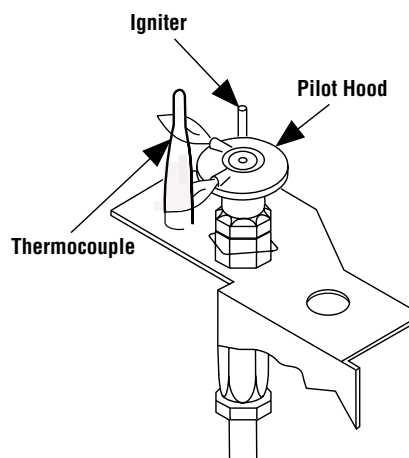

Figure 26 - Proper Pilot Flame Appearance
- ☐ Periodically inspect the pilot system for proper flame. Turn ON the IPI switch (Intermittent Pilot Mode, ON [-] = Standing Pilot Mode). Ensure the igniter lights the pilot. The pilot flame should engulf the flame sensor as shown in **Figure 26**. See *Intermittent/Standing Pilot Mode* on **Page 22** for instructions on switching from intermittent ignition to a standing pilot.